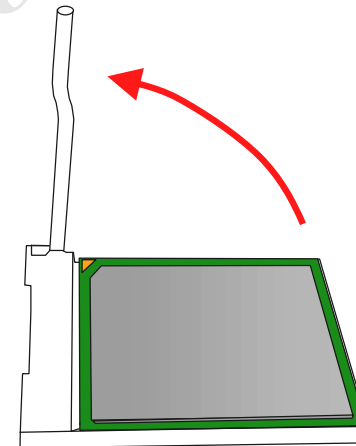

Figure 2-6 Disconnect the cable
3. To remove the existing CPU, lift the socket arm up to the vertical position. (Figure 2-6)